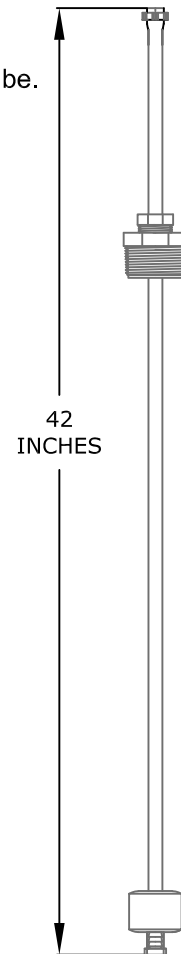

FIG 1
2. Cut Suction Tube off at 42 inches (See FIG 1).